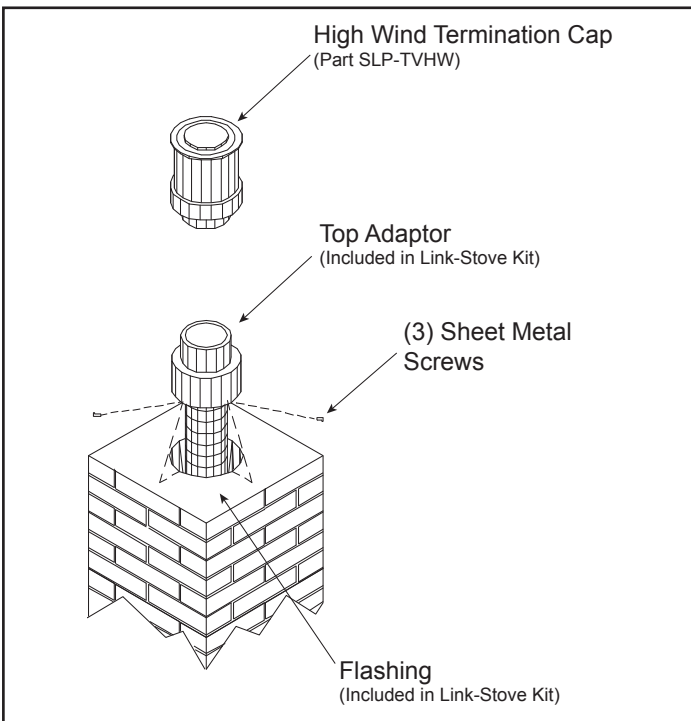

Figure 4.28
- Secure the top adapter to the flashing. Use three sheet metal screws through the side of the top adapter into the flange on the flashing See Figure 4.28. Twist lock the high wind termination cap on to the top adapter.